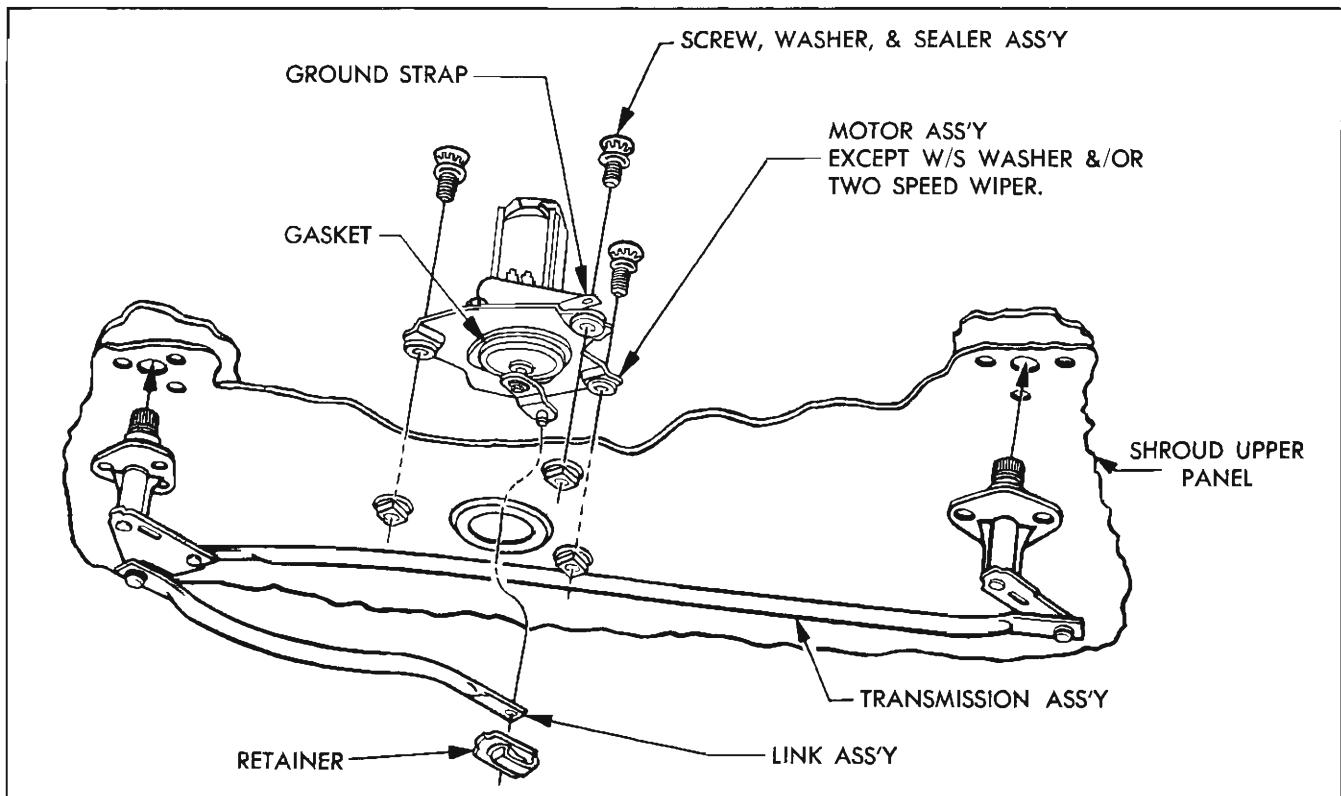

Fig. 11-63 Windshield Wiper Transmission
WIPER TRANSMISSIONS AND LINKAGE—REPLACE (FIG. 11-63)
1. Make sure gasket is on motor (Fig. 11-63).